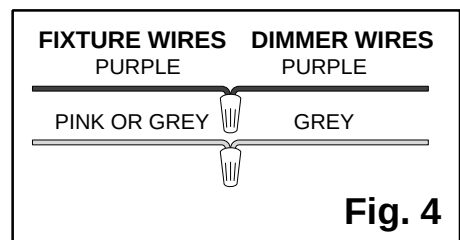

Fig. 4
13. Connect the purple (+) and grey/pink (-) **fixture wires** to corresponding wires of the wall 0-10V **dimmer** (**Fig. 4**).